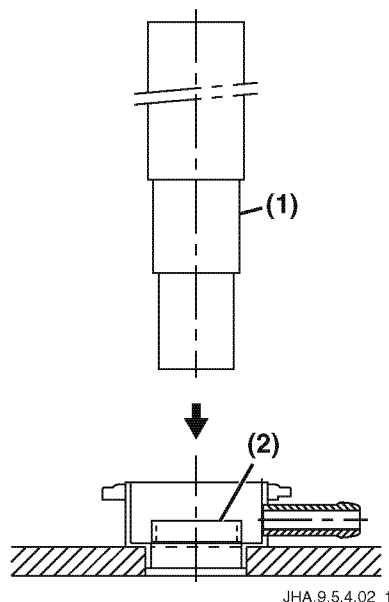

Figure 7-11
5. Apply Loctite® 603 or improved Loctite® 601 (Figure 7-10, (4)) glue or equivalent to the filler neck mating surface and press the filler neck into the heat exchanger with the special tool 1 (Figure 7-11, (1)).
6. Secure the new filler neck to the heat exchanger by pressing the small copper tube (Figure 7-11, (2)) inside the filler neck with the special tool 2 (Figure 7-11, (1)).